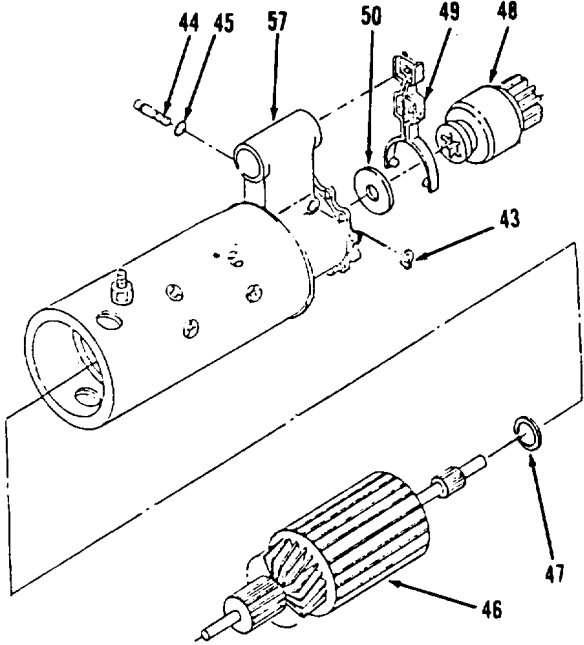

Figure 4-45.
- 26. Inspect bushing (41) and if necessary, using a suitable driver and press, remove bushing (41) from housing (42).
- 27. Remove snap ring (43), shaft (44) and two preformed packings (45) from housing (57, Figure 4-45). Discard two preformed packings (45).
- 28. Remove armature (46) and spacer (47).
- 29. Remove drive (48) and lever (49) from housing (57).
- 30. Remove washer (50).